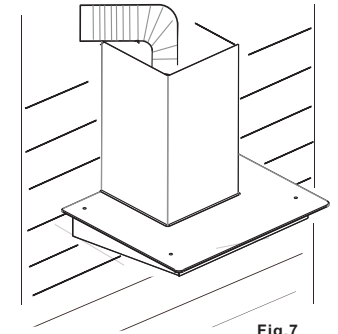

Fig.7
- Hang the hood on the wall bracket(Fig.7).